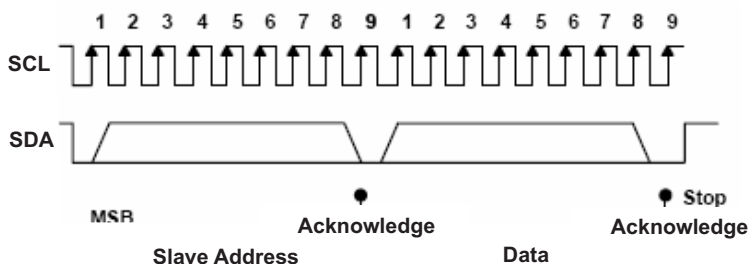

Figure 29. I2C Address And Data Cycles
- The master generates further SCL cycles to either *transmit* data to the slave (R/W bit 0) or *receive* data from the slave (R/W bit 1). In either case, the receiver needs to acknowledge the data sent by the *transmitter*. So an acknowledge signal can either be generated by the master or by the slave, depending on which one is the receiver. The 9-bit valid data sequences consisting of 8-bit data and 1-bit acknowledge can continue as long as necessary (See Figure 29).
- To signal the end of the data transfer, the master generates a *stop condition* by pulling the SDA line from low to high while the SCL line is high (see Figure 29). This releases the bus and stops the communication link with the addressed slave. All I2C compatible devices must recognize the stop condition. Upon the receipt of a *stop condition*, all devices know that the bus is released, and they wait for a *start condition* followed by a matching address.